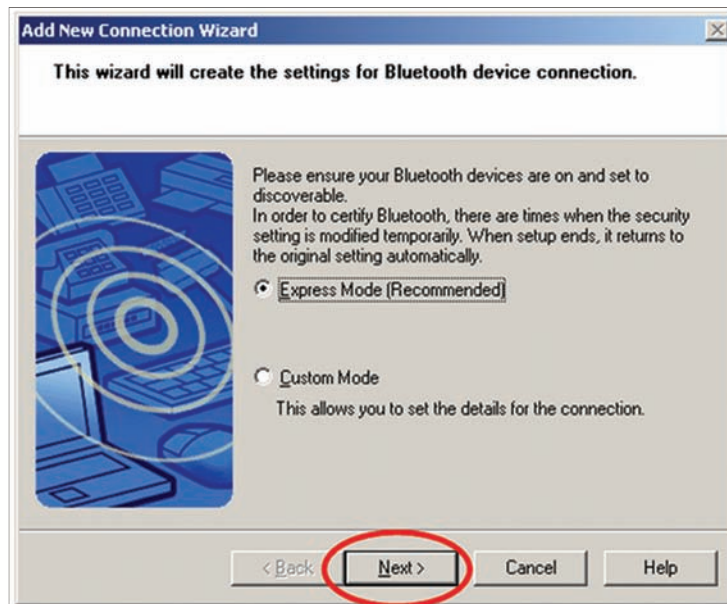

Figure 3.7: A2DP example 1 – Start discovery of Bluetooth devices
3.) Click Next (Discover BT Devices) - Figure 3.7